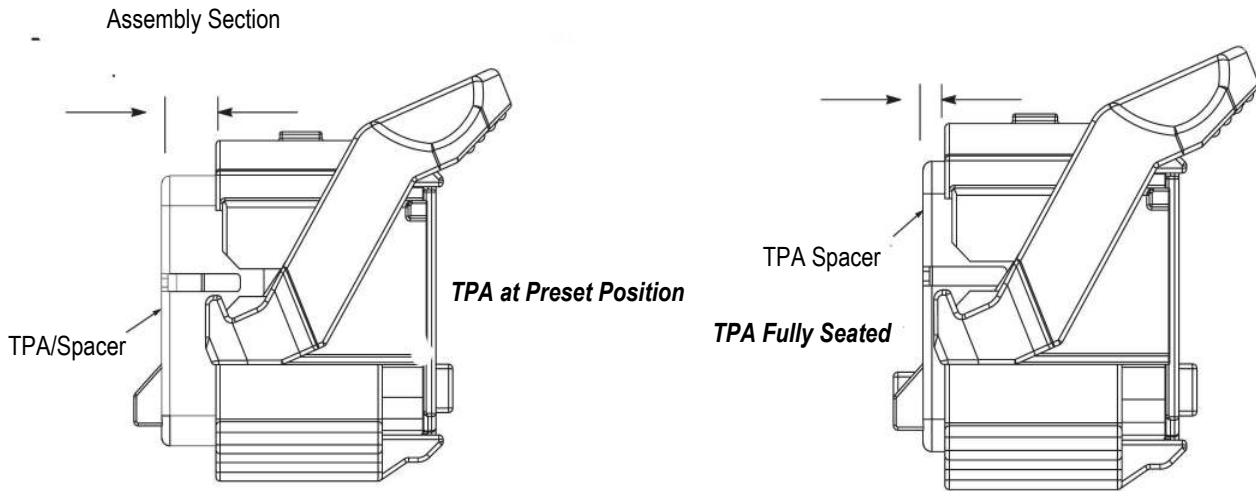

Figure 2
1. Before inserting contacts into the harness assembly, be sure that the spacer (or TPA) is in the "preset" position." See Figure 2.
6. Press on the TPA until it clicks into the "fully seated position" (Figure 2). TPAs that do not seat indicate the possibility of a partially inserted terminal(s). If this occurs, remove the TPA (refer to Paragraph 2.2, Terminal Replacement Procedure), confirm terminals are properly seated, and reinstall TPA.